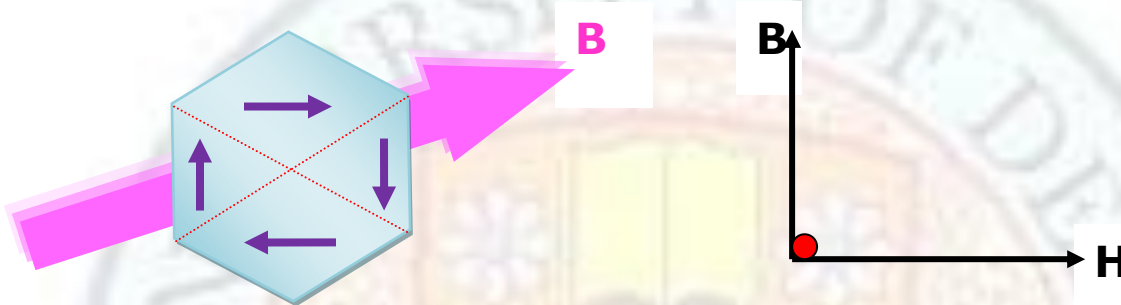

Figure 4
1. We have a ferromagnetic material and we start applying magnetic field. Pink arrow in figure 4 gives the direction of magnetic field. The hexagon shows a schematic of original direction of magnetic domains.